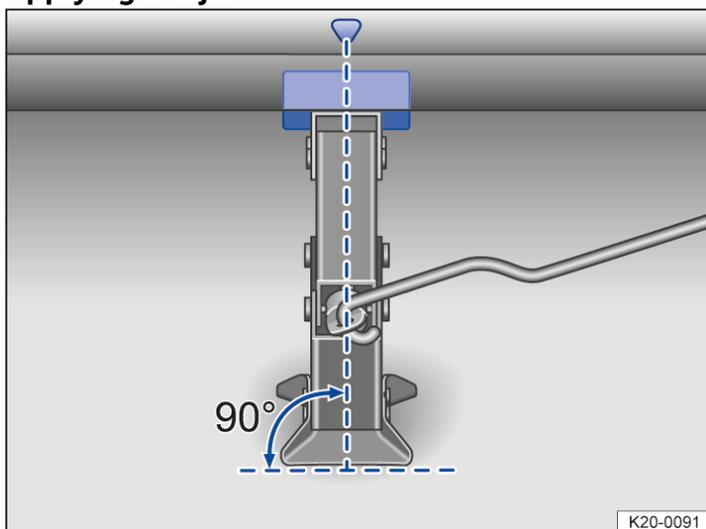
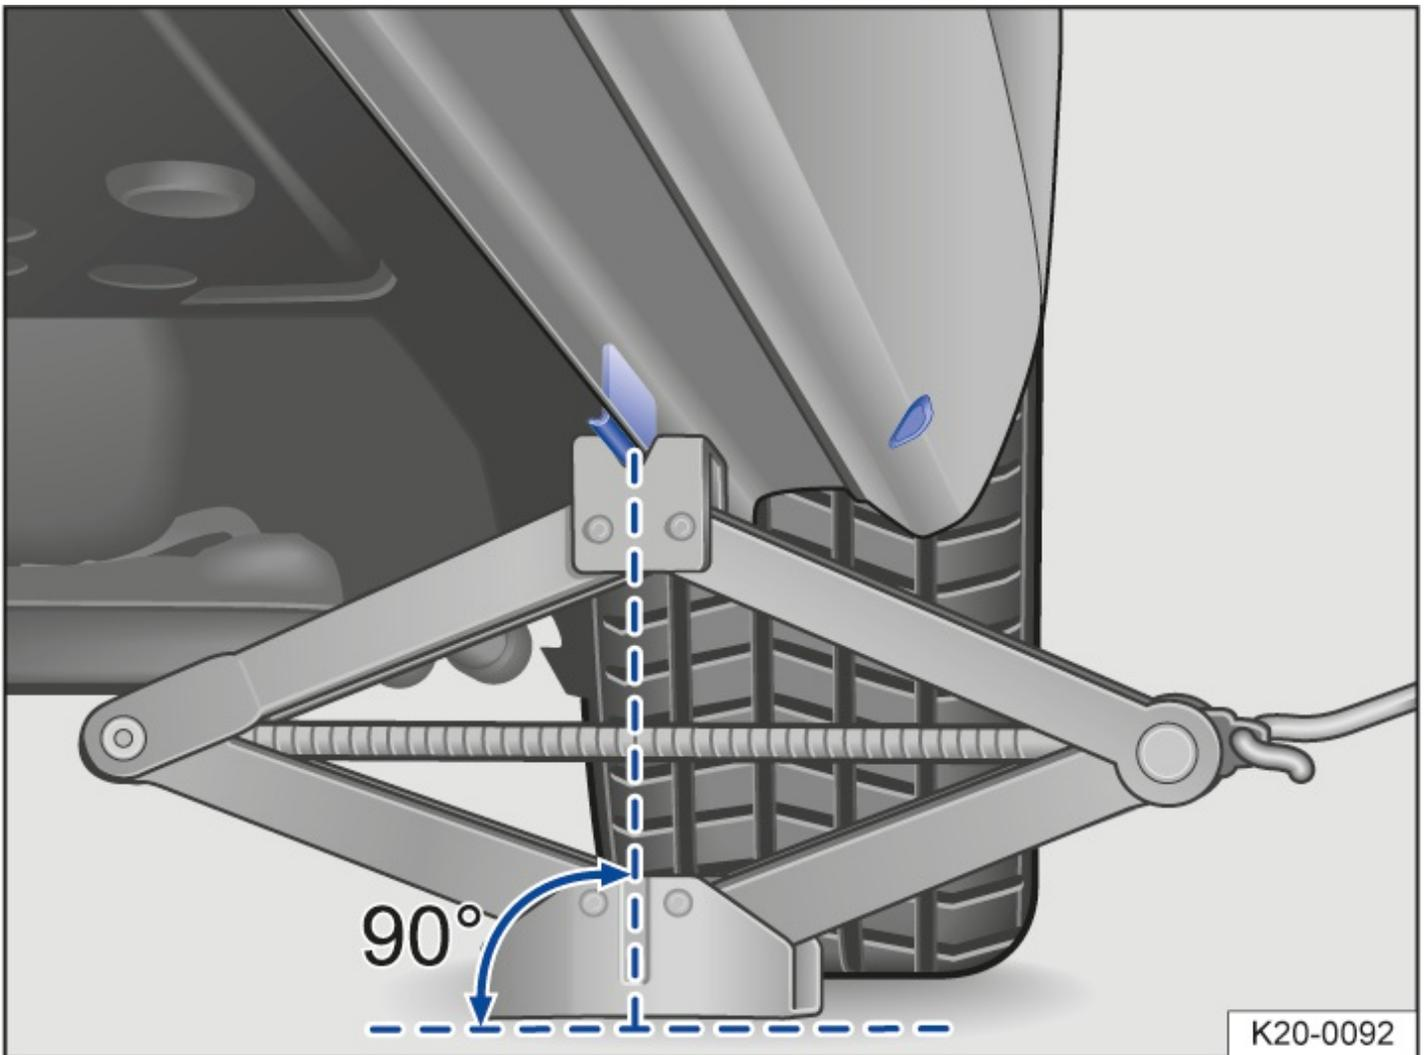

Fig. 2 Correct alignment of the jack.
Fig. 3 Scissors jack applied at the rear on the left-side of the vehicle.
10. Make sure that the entire surface of the foot of the jack is resting securely on the ground and that the foot of the jack is positioned vertically directly beneath the jacking point → *Fig. 2* and → *Fig. 3*.
11. Position the jack and simultaneously continue to crank the claw up until it is in position around the jacking point underneath the vehicle → *Fig. 3*.
- Apply the jack only at the points described. The jack claw must grip the vertical rib under the side member securely → Fig. 3.